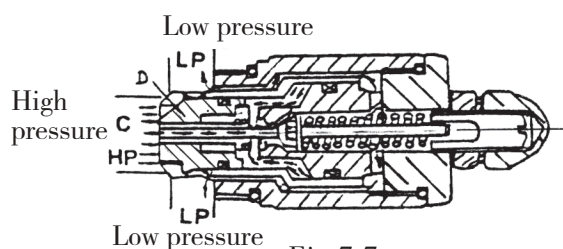

Fig.7.7
(3) As the pilot poppet “E” is opened, the pressure behind the poppet “C” drops, due to which the poppet “C” is moved to seat on the pilot poppet “E”. As a result of this, the oil flowing behind the relief valve poppet, “D” is shut off and the pressure at the inner side is reduced. (See fig.7-7)